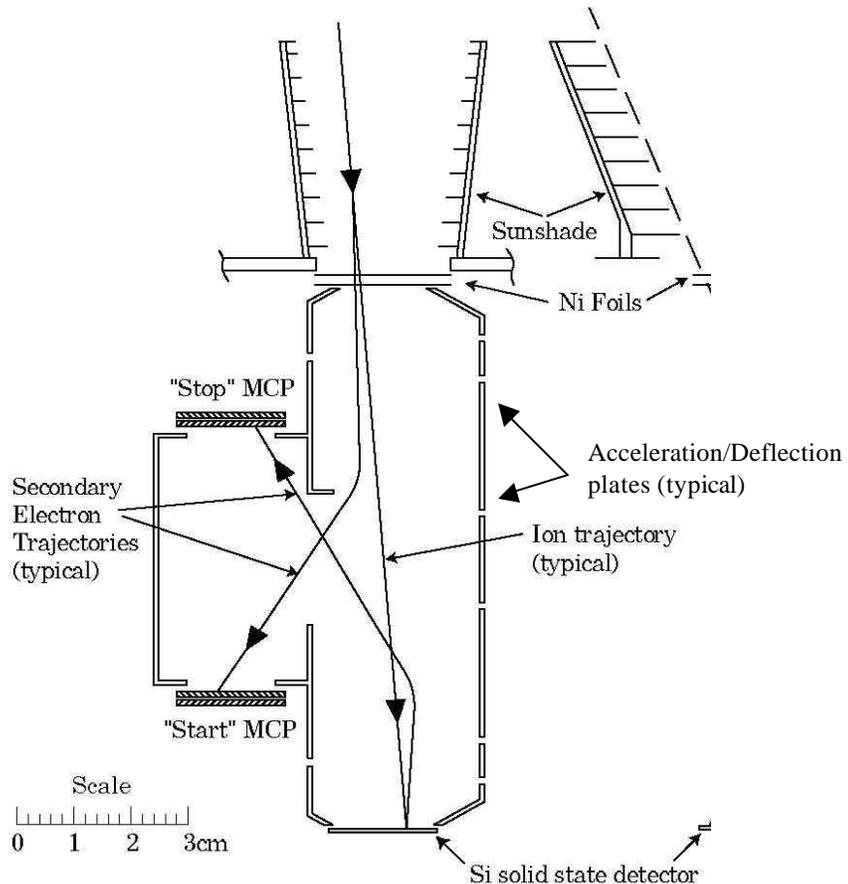

Fig. 1 Cross Section
2.1 Operation of TOF Telescope - The telescope measures the time required for incoming ions to travel from the front foil of the telescope to the solid-state detector (SSD) at its rear. It operates not by detecting the particles themselves, but by detecting the secondary electrons knocked off the front foil (forward scattered) and the SSD (backward scattered). Typically a few to a hundred electrons with energies of a few eV are emitted from the back surface of the foil and from the front surface of the SSD for each incoming particle, depending on the particle type and energy. In themselves, these electrons are too few and have too little energy to constitute a measurable signal, so the telescope does three things to correct this. First, it accelerates the electrons to approximately 1000v and second deflects them out of the ion path into the direction of the electron detector assembly. Finally, the electron detector - a pair of microchannel plates (MCP) - multiplies the number of electrons by a factor of about 10 million, collects the resulting signal on an anode and passes it on to the TOF electronics. A drawing of the telescope is shown in fig 1.